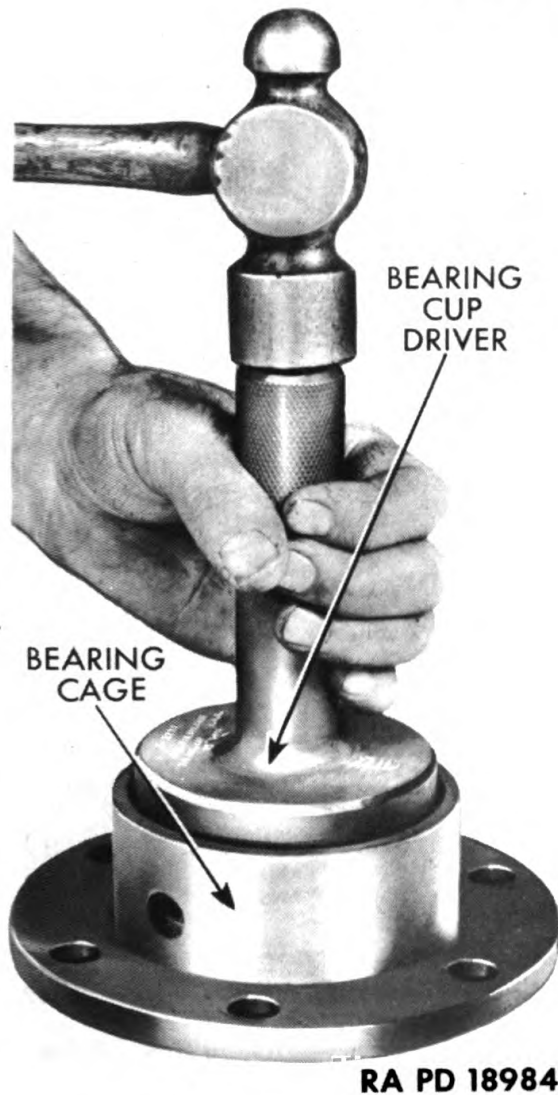

Figure 62 — Installing Bevel Drive Pinion Bearing Cup
(1) **INSTALL BEVEL DRIVE PINION BEARING CUPS IN BEARING CAGE.** Drive both bearing cups into bearing cage (fig. 62).